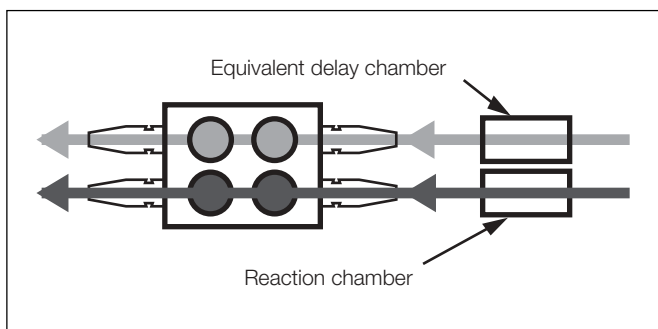

Fig. 2 Differential Measurement Technique
- a) Comparing the thermal conductivity of a stream before and after a reaction to promote the effect of variations in the measured variable. This is the Differential Measurement Technique – see Fig. 2.